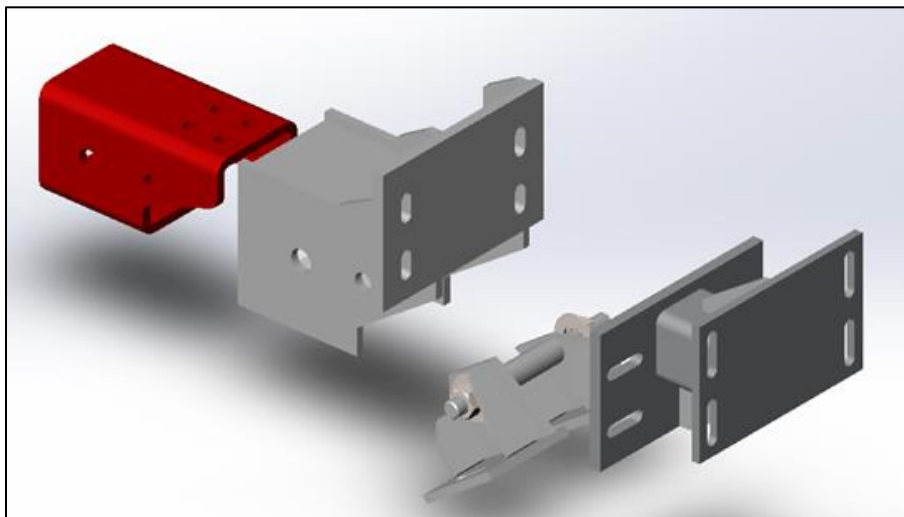

Figure 2 : Installation of frame extensions
- 2- Start by sliding the Front Frame brackets (Item 1 in Figure 2 below) on to the frame of the chassis, making sure to line up the bolt holes in the bracket and frame.
- 6- Using 4 – 1/2 "bolts, fasten the frame extension (Figure 2, Item 2) to the frame bracket.